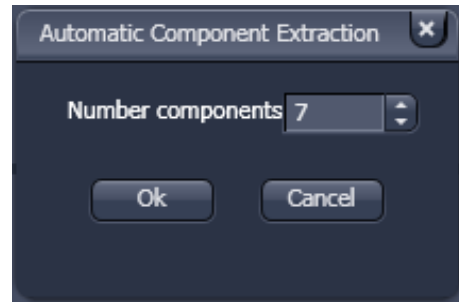

Fig. 581 ACE, number of components selection window
- Select the number of components in the sample and click **Ok** (Fig. 581).